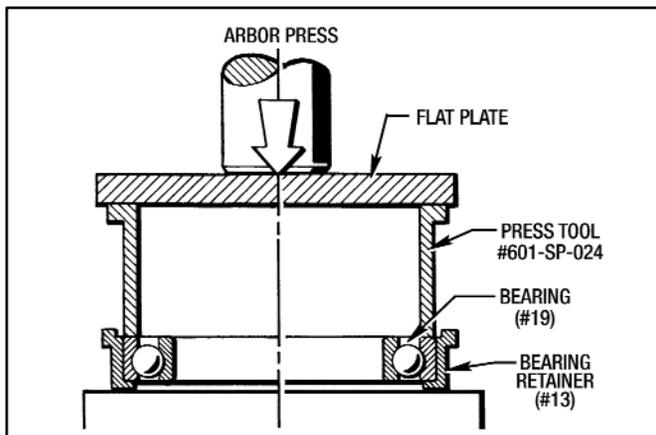

Figure 7.1 - Installing Bearing (#19) into Bearing Retainer (#13)
2. Press the Ball Bearing (#19) into the Bearing Retainer (#13) with an arbor press as shown in Figure 7.1. Use the small end of Tool #601-SP-024 and press until the bearing is seated in the retainer.